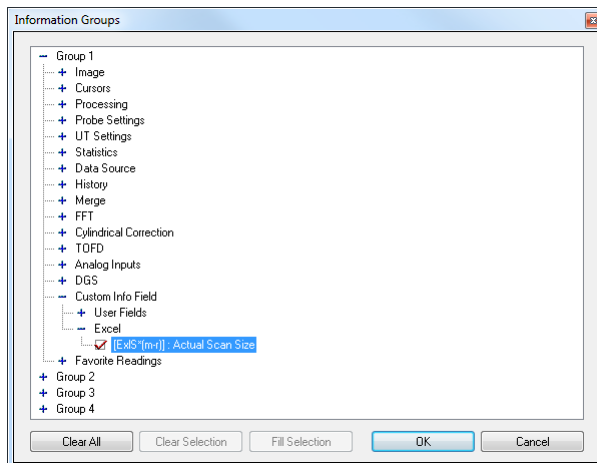

Figure 10-14 The New View Info dialog box
10. In the **New View Info** dialog box, type the appropriate information for the reading you want to import, and then click **OK** (see the example shown in Figure 10-14 on page 457).